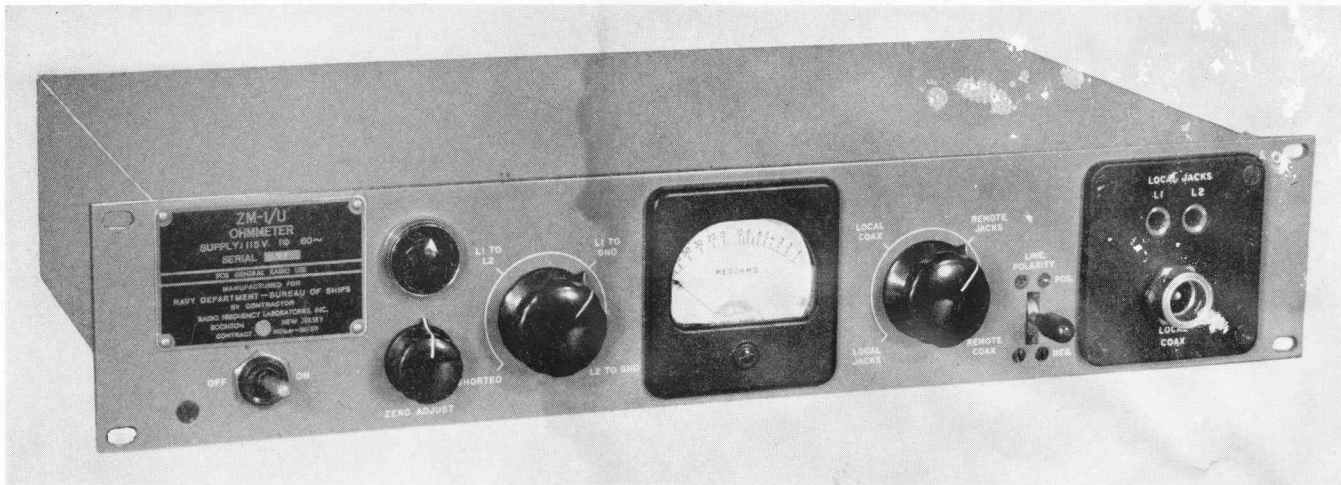

Figure 1-21. Ohmmeter Navy Model ZM-1/U, Front View
(15) OHMMETER NAVY MODEL ZM-1/U (Figure 1-21).—The Ohmmeter Navy Model ZM-1/U measures resistance between .5 and 200 megohms and is designed specifically to measure the leakage of balanced and unbalanced communication lines. The equipment consists of a 500 volt regulated power supply, a precision 10 megohm resistor, a D. C. microammeter, and various control switches. It operates from a 95-130 volt 50-60 cycle source. For more complete information refer to NavShips 900,948. This